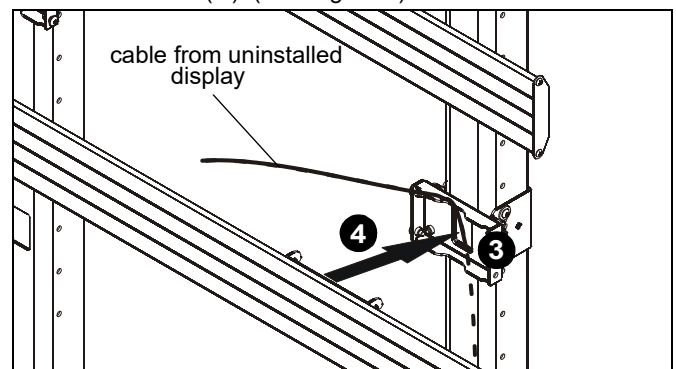

Figure 7
3. If rails needed to be installed on top of cable management holes, cables may be routed through quick connect bases prior to the rails being installed. (See Figure 7)
4. Install rails according to Rails Installation section making sure cable is routed through cable opening on quick connect base (Q). (See Figure 7)